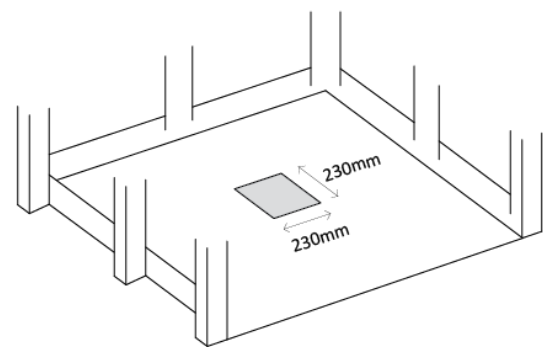

FIGURE 2
5. Connect the waste body to the pipework, FIGURE 2, ensuring that the body seal is in the correct position and 15-25mm below the floor level, as in FIGURE 2 and 3